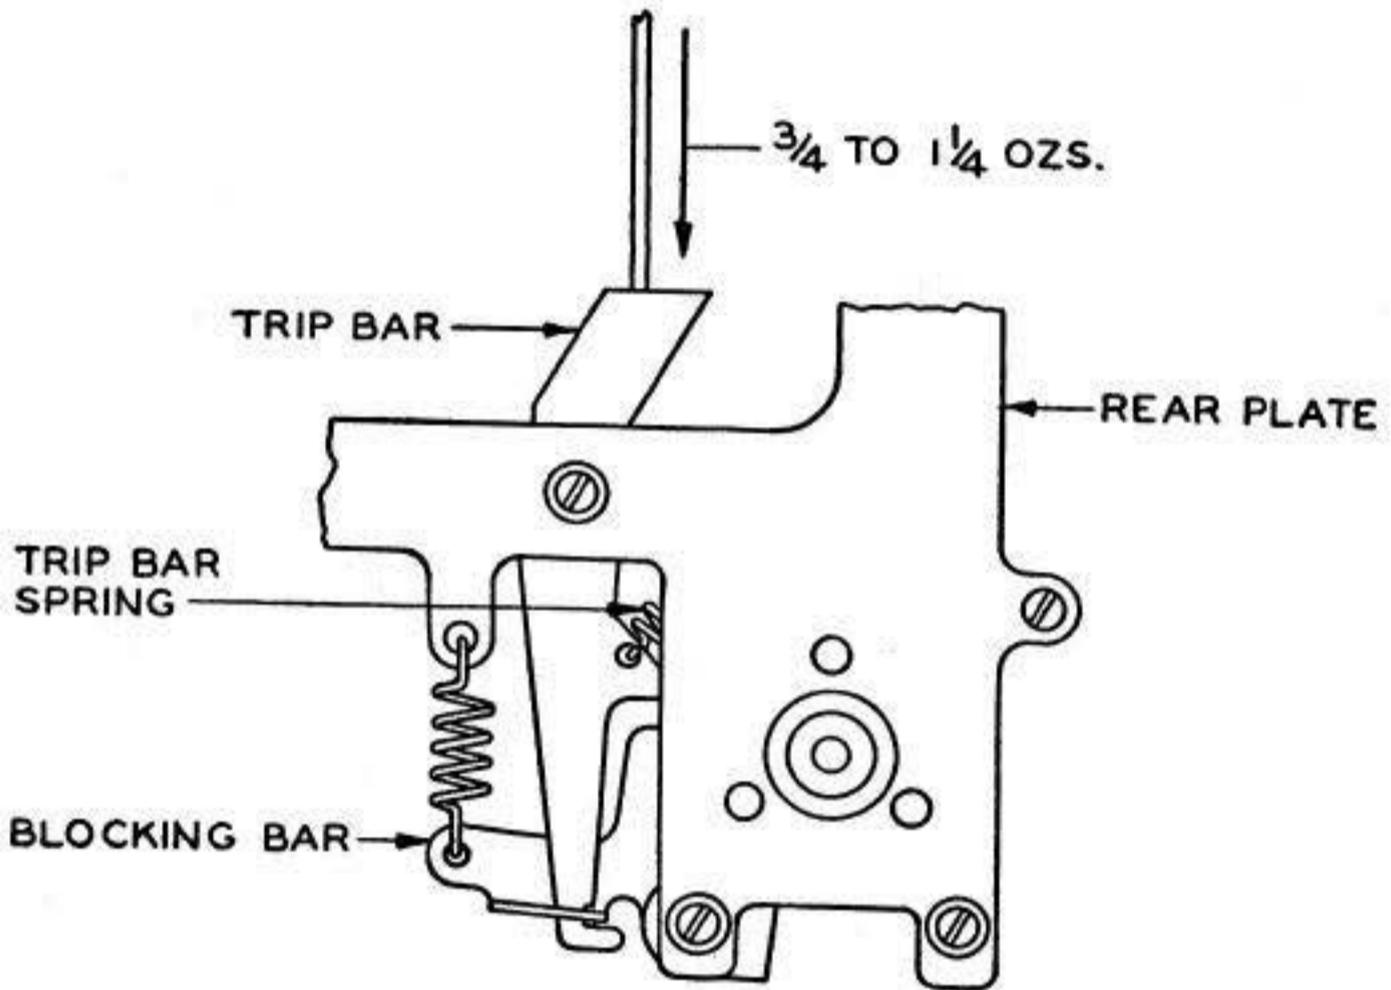

Fig 38
4.09 **Tripbar Spring:** It should require Min $3/4$ oz, Max $1-1/4$ oz, to just start the tripbar moving. **Fig 38**